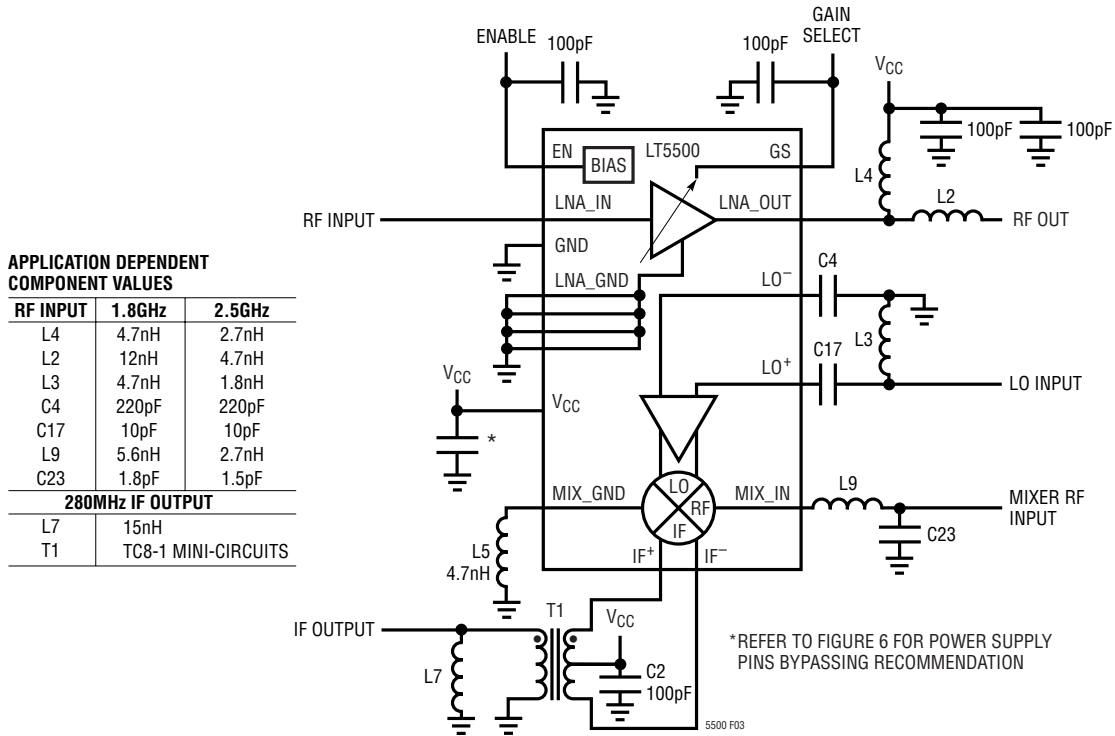
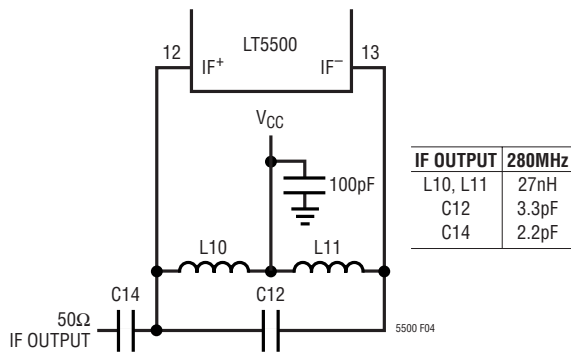
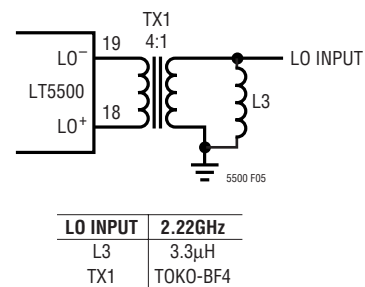

Figure 3. Simplified Test Schematic for 1.8GHz and 2.5GHz Applications
Figure 4. Alternative Mixer IF Output Matching
Figure 5. Optional Transformer-Based Differential LO Drive
Note 3: Component values listed in Figure 3 for 1.8GHz evaluation board were used to guarantee 1.8GHz performance.
requires a shunt inductor connected to the power supply to provide the bias current. The component configuration for matching and example component values are listed in Figure 3. If it is desirable to reduce the gain further and simultaneously broaden the LNA bandwidth, an additional shunt resistor to the power supply can be added to the output to reduce the output quality factor (Q).
The Mixer consists of a single-ended input differential pair followed by a double-balanced mixer cell. The input matching configuration for the Mixer is shown in Figure 3. The Mixer uses a 4.7nH external inductance to act as a high frequency current source at the MIX_GND pin. Example component values for matching the mixer input are tabulated in Figure 3.
An IF transformer can be used to create a single-ended output. The additional discrete components necessary to achieve a 50Ω match are tabulated in Figure 3. Alternatively, the discrete solution shown in Figure 4 can be used to perform differential to single-ended conversion. For best LO and RF signal suppression at the IF output, a transformer should be used. If it is desirable to reduce the gain of the mixer, a resistor between the IF outputs can be used.
The LO inputs can be driven either differentially or single ended. A single-ended configuration is shown along with example component values in Figure 3. Optionally, the LO can be driven differentially as shown in Figure 5.
The evaluation board employs primarily 0402 surface mount components, particularly near the signal paths. All surface mount inductors must have a high self-resonance frequency. The component values necessary for 1.8GHz and 2.5GHz applications are tabulated in Figure 3.